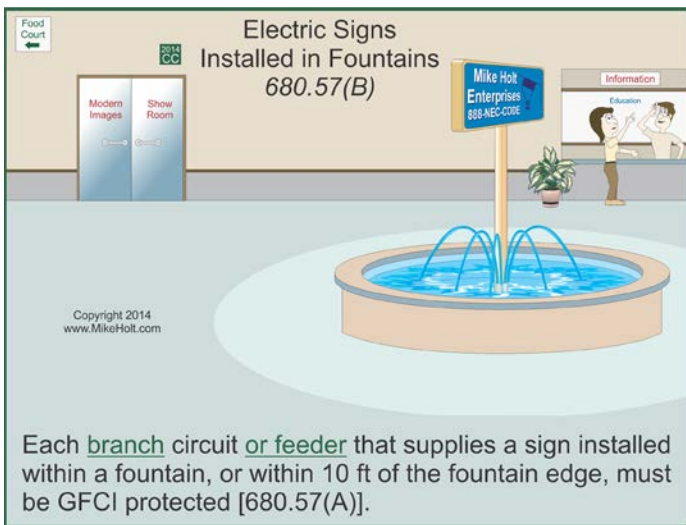

Figure 680–62
(B) GFCI Protection of Sign Equipment. Each branch circuit or feeder that supplies a sign installed within a fountain, or within 10 ft of the fountain edge, must be GFCI protected [680.57(A)]. *Figure 680–62*